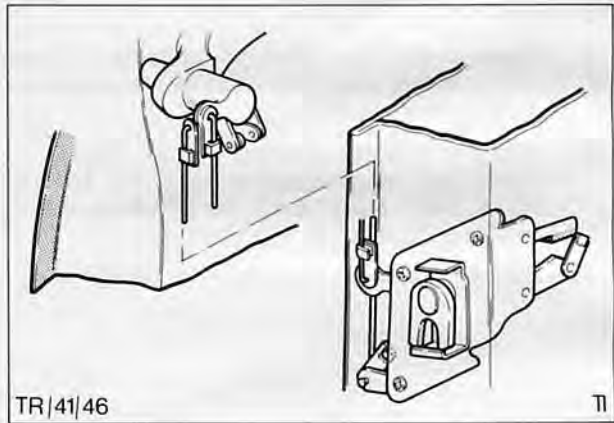

Fig. 30. Exterior handle release lever rod to release lever on lock
3. Disconnect exterior handle rods from their door lock levers, Fig. 30.